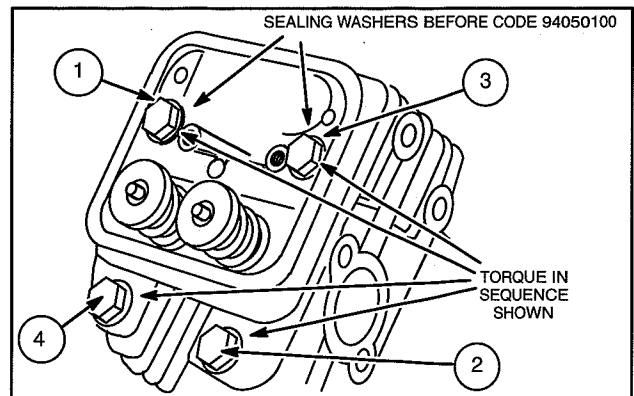

Fig. 13 – Install Cylinder Head
1. Install cylinder head with new gasket, Fig. 13.